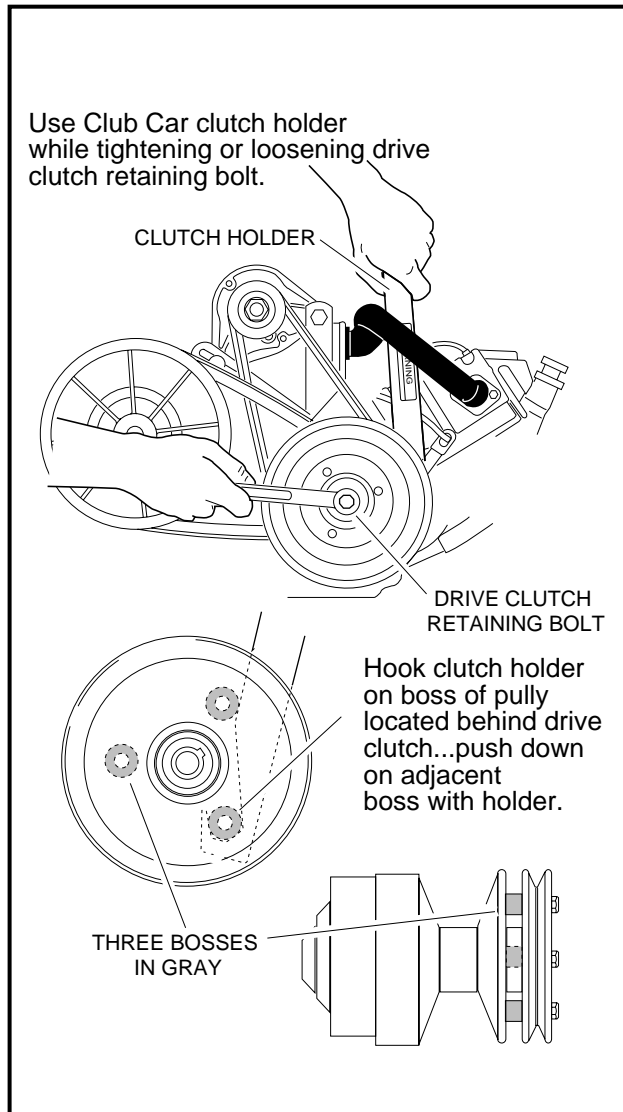
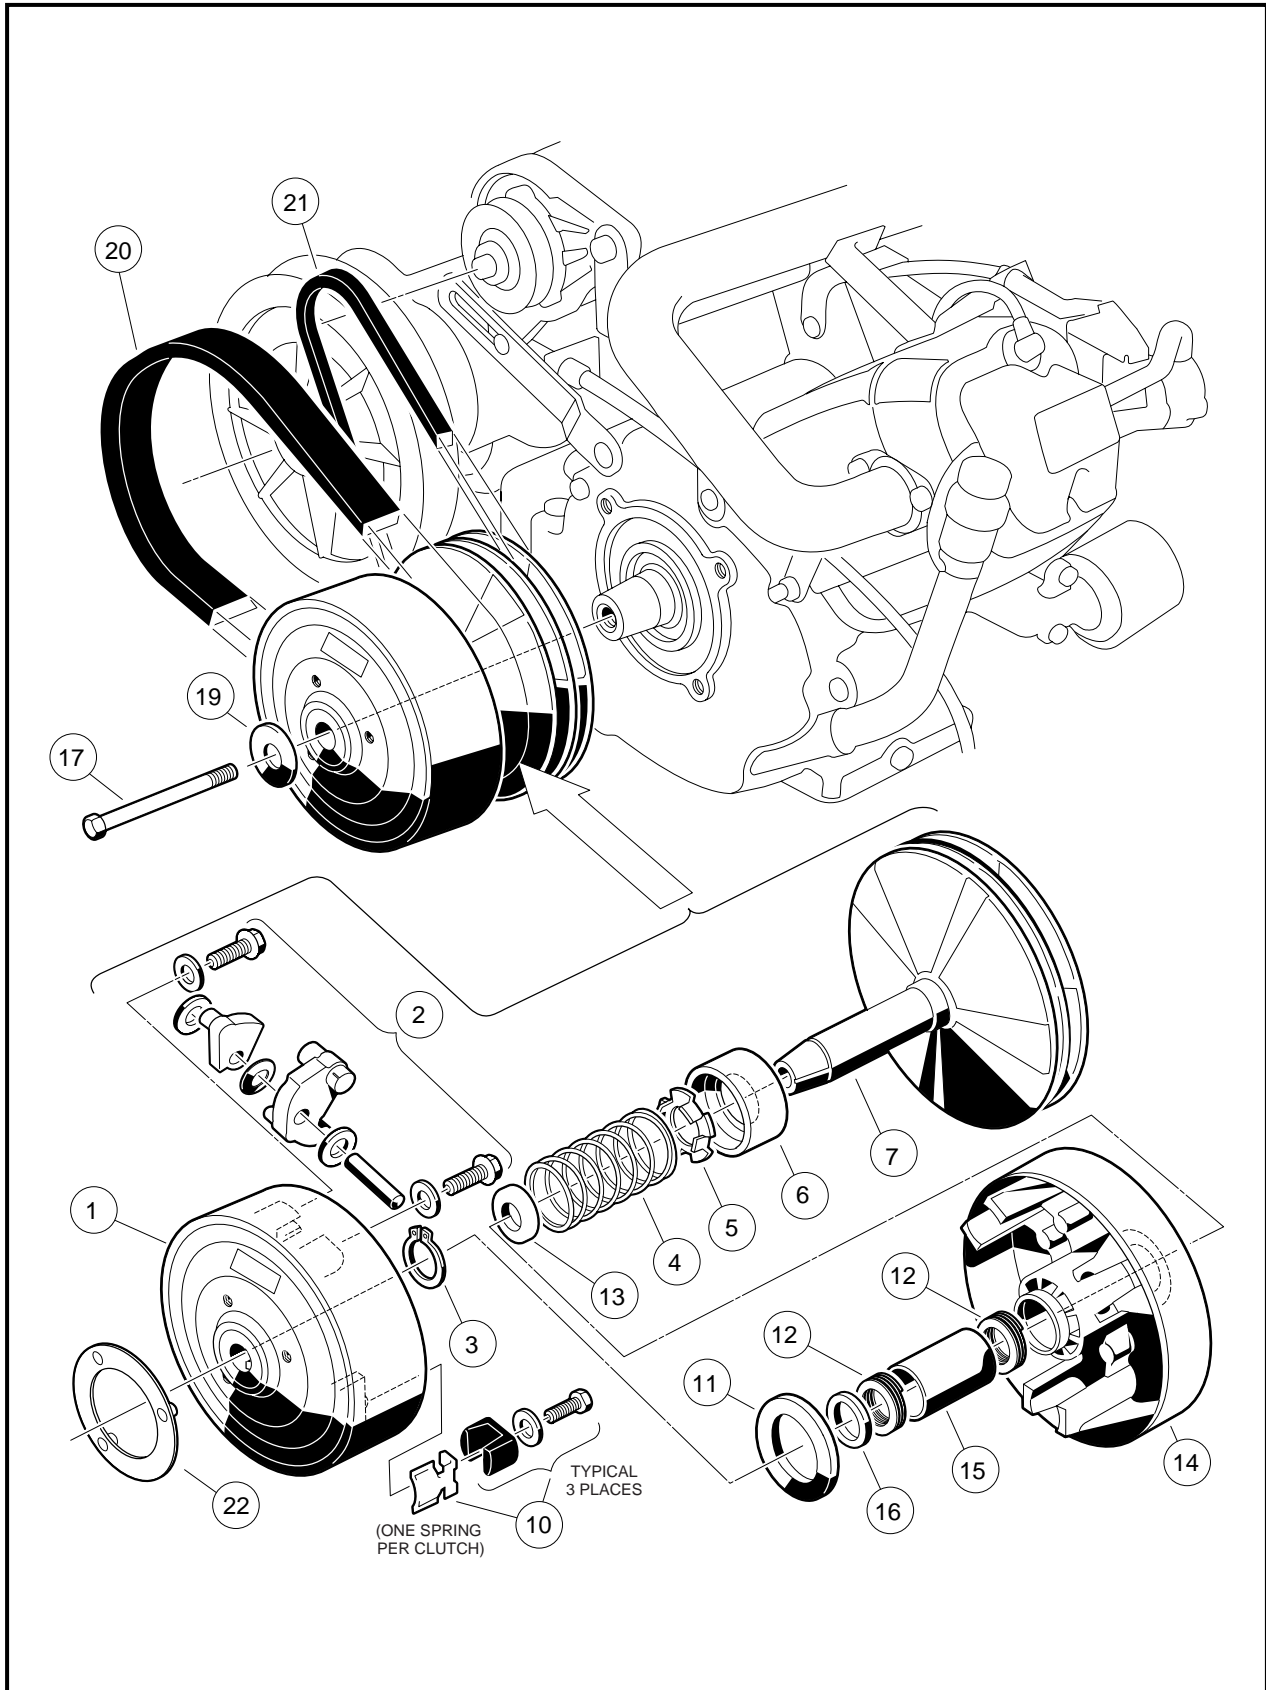
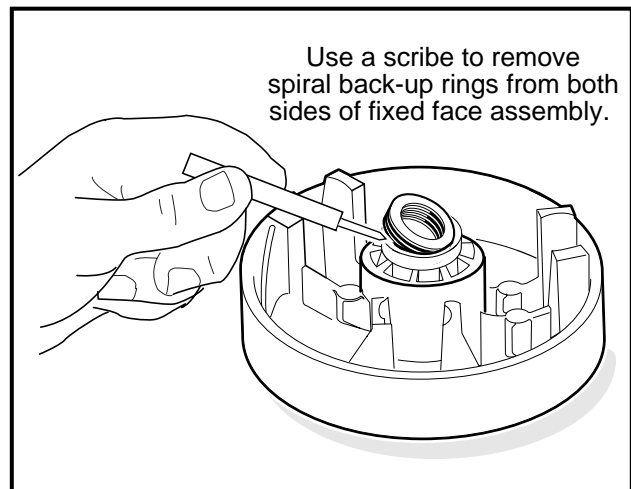

Figure 17-3 Loosen Retaining Bolt
Figure 17-5 Drive Clutch Assembly
Figure 17-11 Spiral Back-up Rings
3. If cleaning the driven clutch does not solve the problem, disassemble and thoroughly clean all parts of the drive clutch. Be sure to clean the plastic drive buttons (10) (**Figure 17-5, Page 17-6**).
3. Remove the drive clutch retaining bolt (17) and mounting washer (19) (**Figure 17-5, Page 17-6**). **See also Figure 17-3, Page 17-5.**
- Use only a dry cloth to lightly wipe the shaft of the fixed face assembly (7) (Figure 17-5, Page 17-6). Do not use a brush or steel wool. These will damage the surface of the shaft.
2. Remove the clutch cover (1) (**Figure 17-5, Page 17-6**):
- 2.1. Remove the clutch plug (22) (**Figure 17-5, Page 17-6**).
3. Remove the thrust washer (11) from the moveable face (14) (**Figure 17-5, Page 17-6**).
- Remove the retaining ring (3) from the shaft of the fixed face assembly (7) and slide the moveable face (14) off the shaft (**Figure 17-5, Page 17-6**). See following **NOTE**.
NOTE: If the moveable face is removed from the hub of the fixed face, the spiral back-up rings (12) (**Figure 17-5, Page 17-6**) must be replaced with new ones.
- Remove the spacer (16), and spring (4) and retainer (5). The spring retainer can be removed from the spring if necessary (**Figure 17-5, Page 17-6**).
- Use a scribe or small pick to remove the spiral backup rings (12) from each end of the bore in the fixed face assembly (**Figure 17-5, Page 17-6 and Figure 17-11, Page 17-9**). Discard the rings.
1. Inspect the idler bearing (6) for smooth rotation or seal damage (**Figure 17-5, Page 17-6**).
2. Inspect the bore of the moveable face assembly (14) for scarring or wear. The moveable face assembly must be replaced if the bore is worn to a diameter of 0.883 inch (22.4 mm) or larger (**Figure 17-5, Page 17-6**).
3. Inspect the steel shaft (7) on the fixed face assembly. There should be no measurable wear anywhere on the shaft. Replace the shaft if it is worn, scratched, or damaged (**Figure 17-5, Page 17-6**).
4. Inspect the thrust washer (11) for wear. If it is worn more than 0.030 inch (0.76 mm), turn it over or replace it with a new one (**Figure 17-5, Page 17-6**).
5. Inspect the primary weights (2) and the hub casting for wear. If the primary weights show signs they are touching the casting, the tips of the weights have worn beyond specification and they must be replaced (**Figure 17-5, Page 17-6**).
6. Inspect the pins on the primary weights (2). There should be no measurable wear. Replace them if they are worn, scratched, or damaged (**Figure 17-5, Page 17-6**).
1. Press idler bearing (6) onto the shaft of the fixed face assembly (7). Press on the inner race of the bearing only. Make sure that the cup side of bearing is facing away from the fixed face (**Figure 17-5, Page 17-6**).
2. Using needle nose pliers, install the spring retainer (5) onto the spring (4) (**Figure 17-5, Page 17-6**).
3. Install the spring (4) and retainer (5) into the cup of the idler bearing (6) (**Figure 17-5, Page 17-6**).
4. Install the spacer (13) onto the shaft of the fixed face (**Figure 17-5, Page 17-6**).
5. Install a new spiral backup ring (12) in each end of the bore of the moveable face assembly (14) (**Figure 17-5, Page 17-6**).
6. Install the moveable face assembly (14) onto the shaft of the fixed face assembly (7) (**Figure 17-5, Page 17-6**).
- 6.2. Install the retaining ring (3) (**Figure 17-5, Page 17-6**).
12. Install the 1/4-20 screws and washers (2) and tighten them to 10 ft-lb (13 N·m) (**Figure 17-5, Page 17-6**).
17. Install the thrust washer (11) onto the moveable face assembly (**Figure 17-5, Page 17-6**).
18. Install the hub assembly (1) on the moveable face assembly and align the match marks made before disassembling the clutch. Press the hub assembly on by hand (**Figure 17-5, Page 17-6**).
2. Tighten the drive clutch retaining bolt (17) to 25 ft-lb (33.9 N·m) (**Figure 17-5, Page 17-6**).